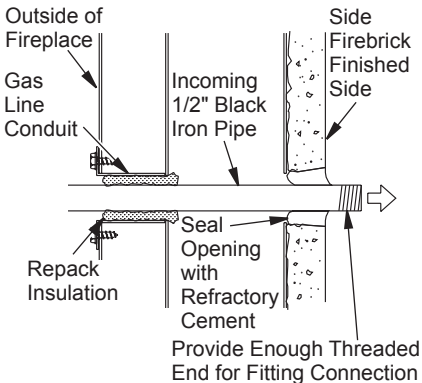

Figure 19 - Gas Line Installation
3. Run a 1/2" black iron gas line into the fireplace through the rear at gas line conduit sleeve (if using a raised platform, add height). Provide sufficient gas line into fireplace chamber for fitting connection (see Figure 19, page 11).